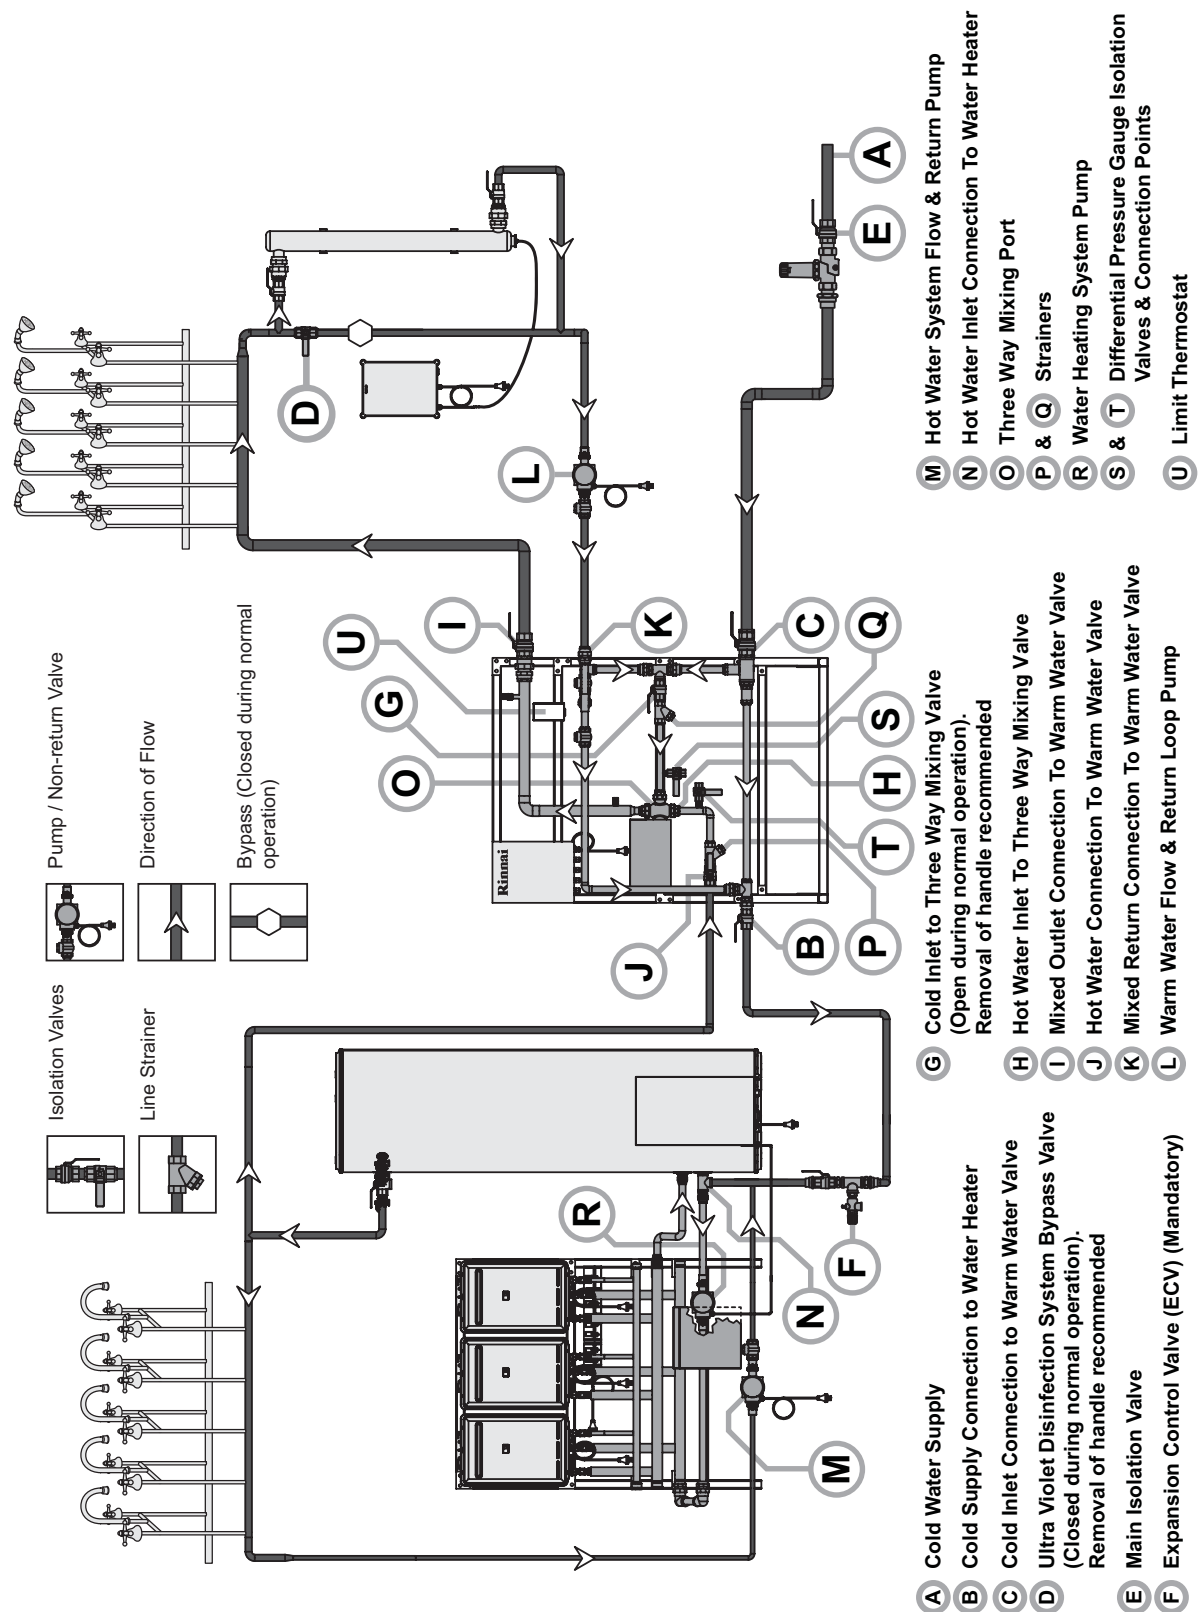

Figure 4A - Component Identification
The maximum pressure difference between the hot and cold inlets of the 3 way mixing valve under flow conditions (referred to as the dynamic differential pressure) must not exceed 50 kPa for the system to perform as specified (see “SPECIFICATIONS”). This is checked by using a suitable differential pressure gauge and connecting it across the ‘cold supply’ and ‘hot supply’ connections to the 3 way mixing valve (Fig. 4A - Items ③ and ④) and reading the maximum differential pressure at full flow conditions. A suitable differential pressure gauge is Ambit Instruments, Model CZ 300 DGC with display range of – 100 kPa to + 100 kPa. This gauge operates via a magnetic coupling with a convoluted diaphragm sensor. Gauges by other manufacturers with equivalent specifications are also suitable.
To carry out the Differential Pressure Check follow steps below (Refer Figures 4A & 4B) for valve and connection locations).